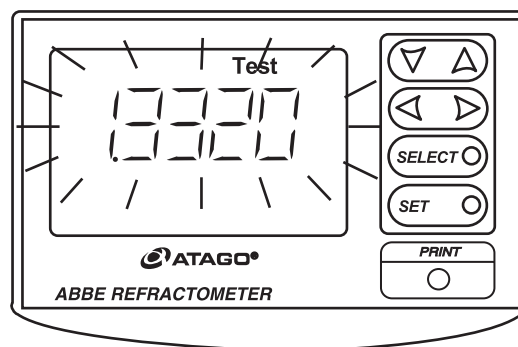

Fig. 7-4
④As [1] is appearing in the display, press the SET key and the refractive index at the present boundary line blinks in the display (Fig. 7-4).